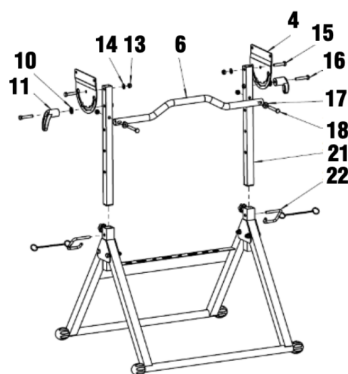

Fig. 2
2. Attach 2 angle brackets (#4) to the vertical posts (#21) using a washer, M8 nut and M8 x 45 bolt (#15) (Fig. 2).
3. Attach the support brace (#6) to the vertical posts using 2 arc washers (#17), M8 nuts and M8 x 65 bolts (#18) (Fig. 2).
4. Insert the hook (#22) into the height adjust hole on the vertical posts (Fig. 2).
6. Attach the angle adjustment handles (#11) to the vertical posts using handle washers (#10) and M8 x 50 bolts (#16) (Fig. 2).